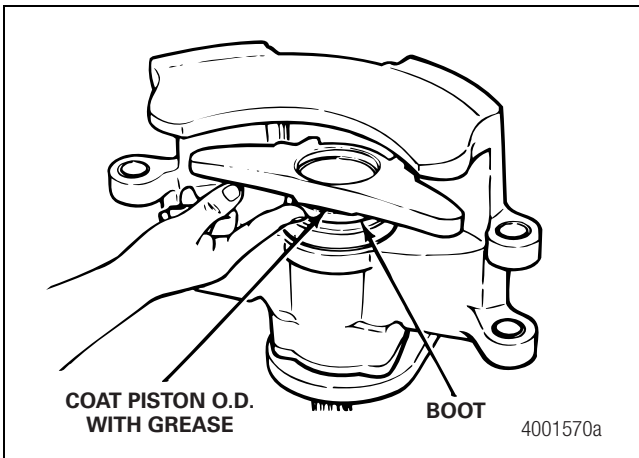

Figure 5.16
7. Carefully install the piston through the boot and into the caliper. Figure 5.16.